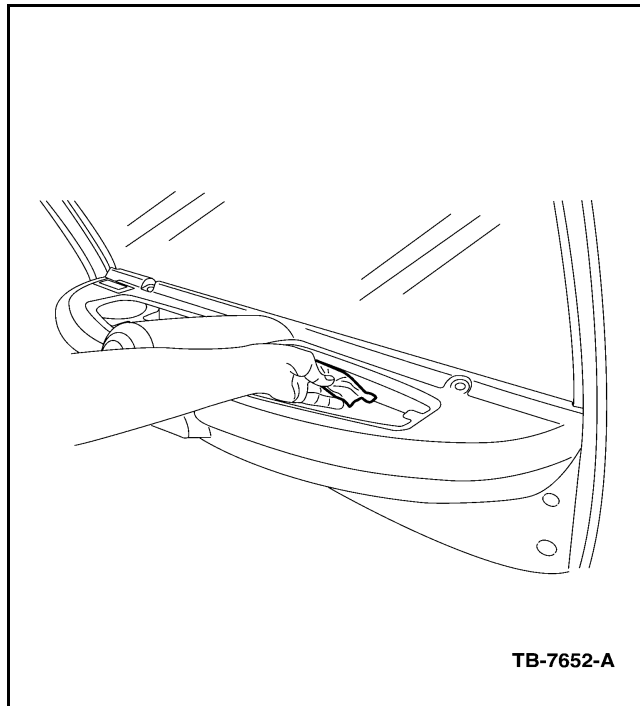

Figure 2 - Article 03-18-4
6. Use a general, residue free, shop solvent such as Isopropanol Kit (ZC-4), or equivalent to clean the backside of the lower header rail. (Figure 2).